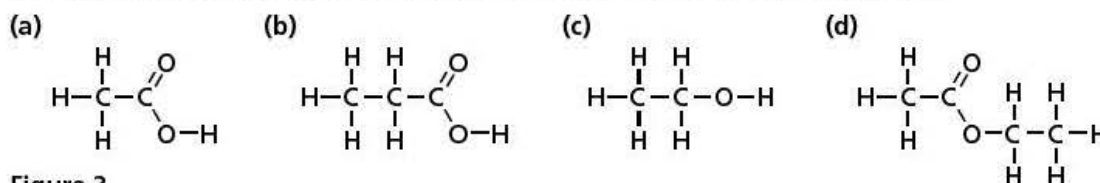

Figure 3
- 1 Build the following molecules using a molecular modelling kit (Figure 3).
- 1 Which of the molecules **(a)** and **(b)** in Figure 3 do you think has the highest melting and boiling point? [1]
- 2 Which homologous series do the molecules **(a)** to **(d)** in Figure 3 belong to? [3]